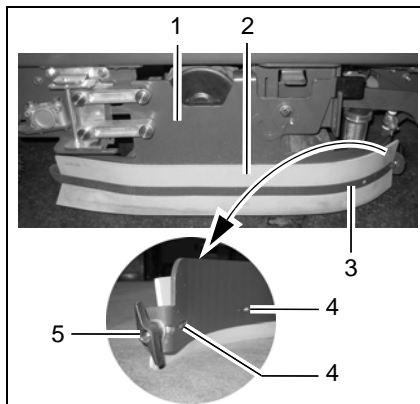

Fig. 32
The deflector (Fig. 32/1) must be fixed in its service position (refer to Section 2.3.1, Point 1).
1. Loosen the wing nut (Fig. 32/5) at the end of the deflector.
2. Slide the clamping rail (Fig. 32/3) in the vehicle's driving direction (forwards) until the clamping rail hooks (Fig. 32/4) are freed and the clamping rail can be removed away from the vehicle.
3. Remove the old rubber deflector strips (Fig. 32/2).
4. Position the new rubber deflector strips (Fig. 32/2) in place.
5. Mount the clamping rail (Fig. 32/3) from the outside and slide back by hand so that the clamping rail hooks (Fig. 32/4) engage.
6. Tighten the wing nut (Fig. 32/5) so that it engages in the thread of the clamping rail (Fig. 32/3) and tightens the clamping rail firmly.